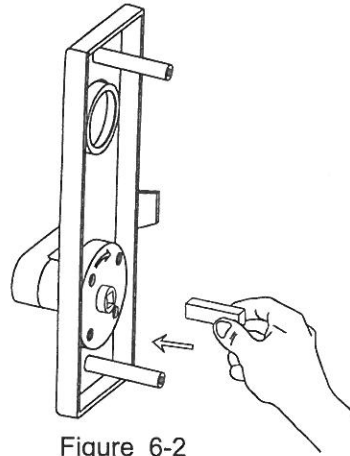

Figure 6-2
2. Insert spindle into hub of spring cage on outside trim. (See Figure 6-2.)